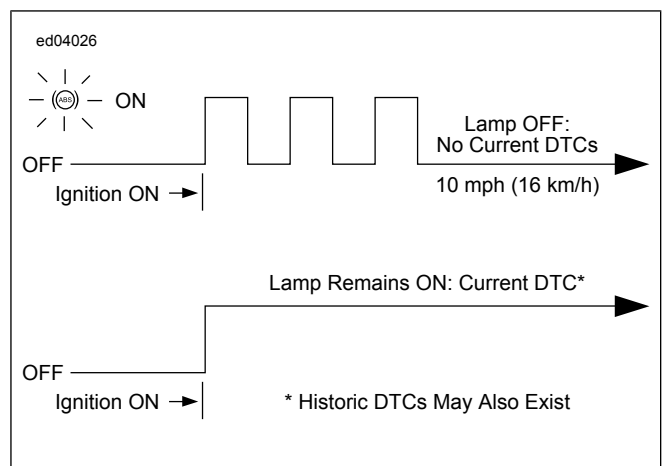

Figure 4-14. ABS Lamp Operation
- See Figure 4-14. The ABS light may flash when the IGN is turned on. This will continue until the vehicle is driven to verify WSS operation.